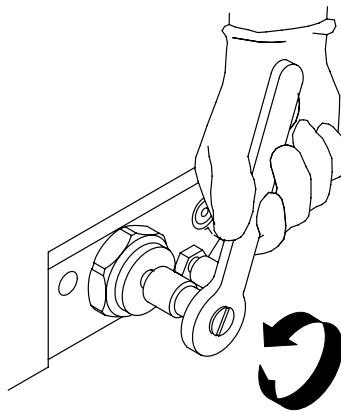

Figure 5-1 Loosening the filter
4. See Figure 5-1. Loosen the filter using a wrench. A socket-type wrench is recommended.